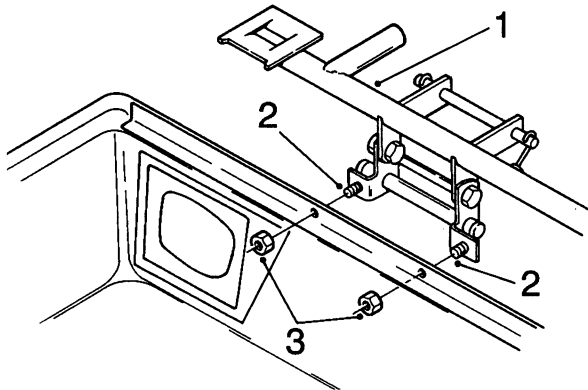

Figure 9
5. Mount the frame and hinge assembly to the bagger top (Fig. 9) using two $\frac{1}{4}$ " x $\frac{3}{4}$ " bolts (already installed on the hinge assembly) and two $\frac{1}{4}$ " nylon